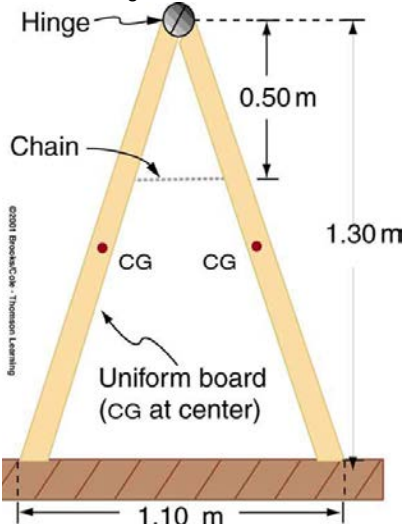

Figure 9.36 A sandwich board advertising sign demonstrates tension.
14. A sandwich board advertising sign is constructed as shown in **Figure 9.36**. The sign's mass is 8.00 kg. (a) Calculate the tension in the chain assuming no friction between the legs and the sidewalk. (b) What force is exerted by each side on the hinge?
15. (a) What minimum coefficient of friction is needed between the legs and the ground to keep the sign in **Figure 9.36** in the position shown if the chain breaks? (b) What force is exerted by each side on the hinge?